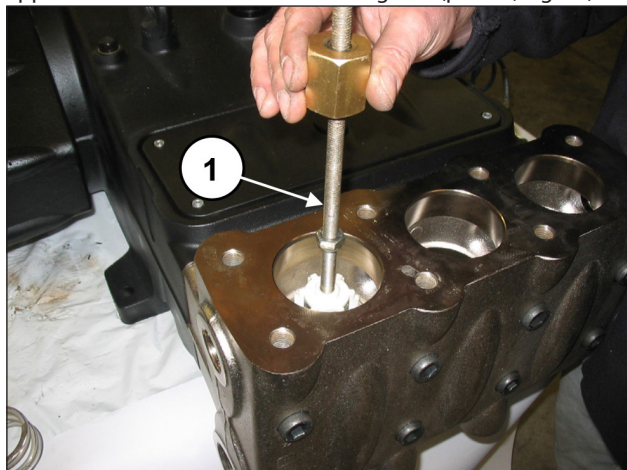

Fig. 82
Extract the outlet valve unit with an extractor hammer to be applied on the M10 hole of the valve guide (pos. ①, Fig. 82).